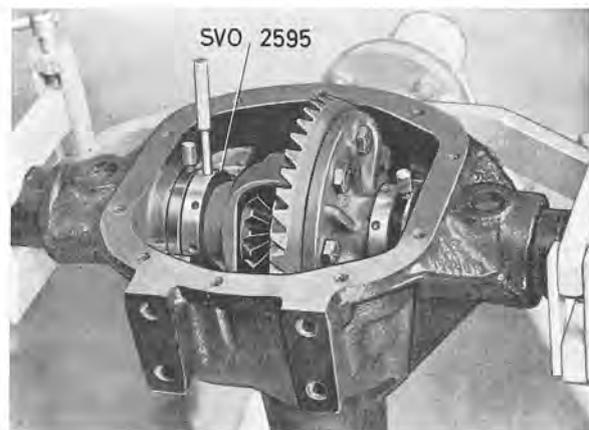

Fig. 4-160. Adjusting rings for differential
1. Lubricate the inside of the adjusting rings SVO 2595 and put them on the differential carrier. The ring with the black-oxidized adjusting ring should be placed on the crown wheel side. Also lubricate the bearing location in the carrier. Place the differential carrier and the adjusting rings in the final drive housing, see Fig. 4-160. Use the dial indicator and adjust in the rings so that the correct tooth flank clearance 0.13—0.20 mm (0.005—